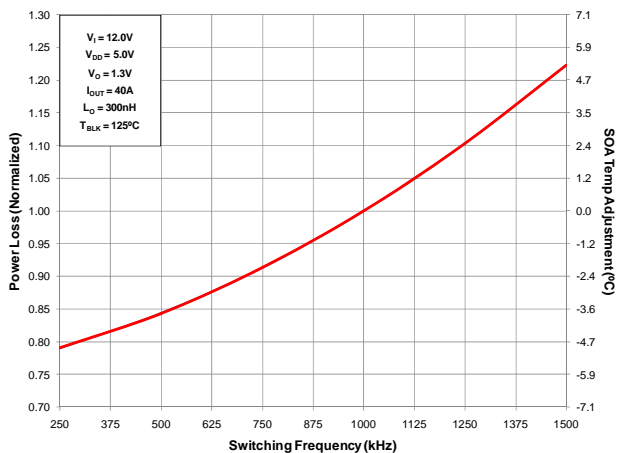

Figure 7 Normalized Power Loss vs. Switching Frequency
- (Figure 7) Normalized power loss for switch frequency \approx 0.91
- (Figure 7) SOA temperature adjustment for switch frequency $\approx -1.9^{\circ}\text{C}$